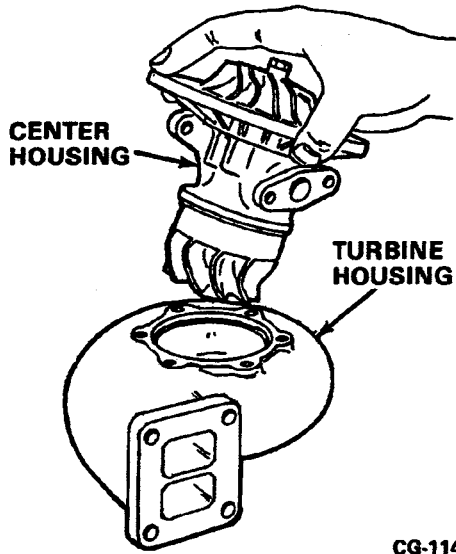

Figure 2.25. Removing Turbine Housing from Center Housing
6. Remove the turbine housing capscrews and clamps which secure the center housing and core assembly to the turbine housing. Carefully lift the center housing and core assembly from the turbine housing. Refer to Figure 2.25.